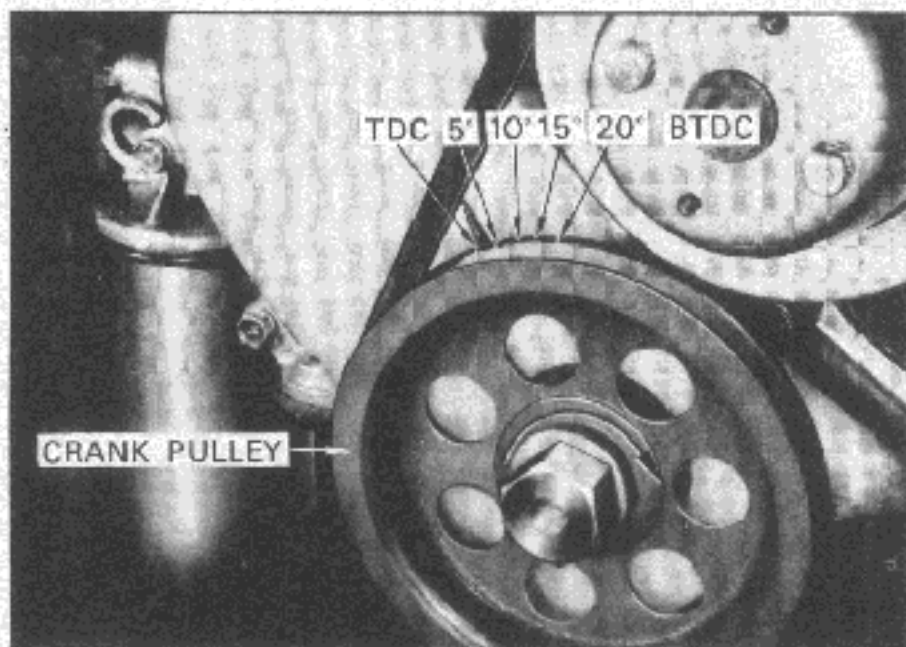

Fig. EC-19 Timing marks on crank pulley
2. Thoroughly wipe off dirt and dust from the timing mark on the crank pulley (Figure EC-19).